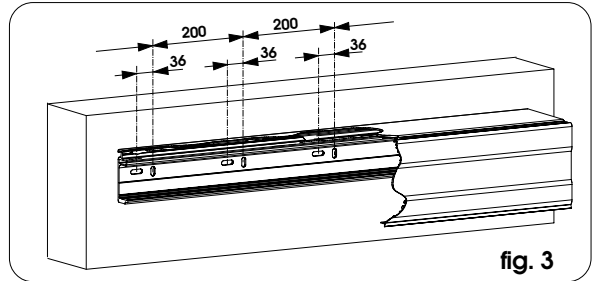

fig. 3
• To begin with, fit the head profile on a vertical slot at one end and on a horizontal slot at the other end (using M8 screws and appropriate expansion plugs), and level parallel to the floor. Secure at the centre, firmly lifting the head profile to align the three securing points. Carry out the remaining securing operations, alternating vertical and horizontal slots (fig. 3).